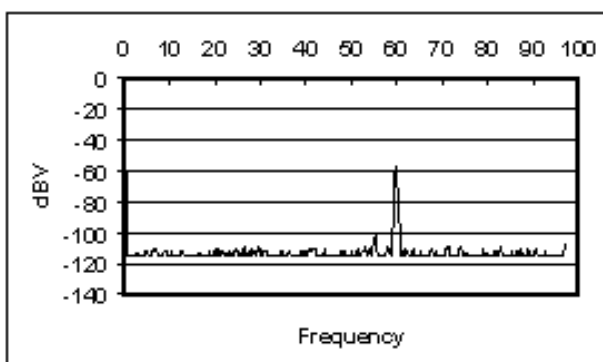

Figure 13: Without Shaking the Cable
3. Hook up a coaxial cable to INPUT A and let it cable hang still. Using the *Interface* program, take a set of data points. Look at the spectrum. You should see something as in **Figure 13**. Note the  $1/f$  and capacitive noise. Include a copy of these data in your lab write-up.